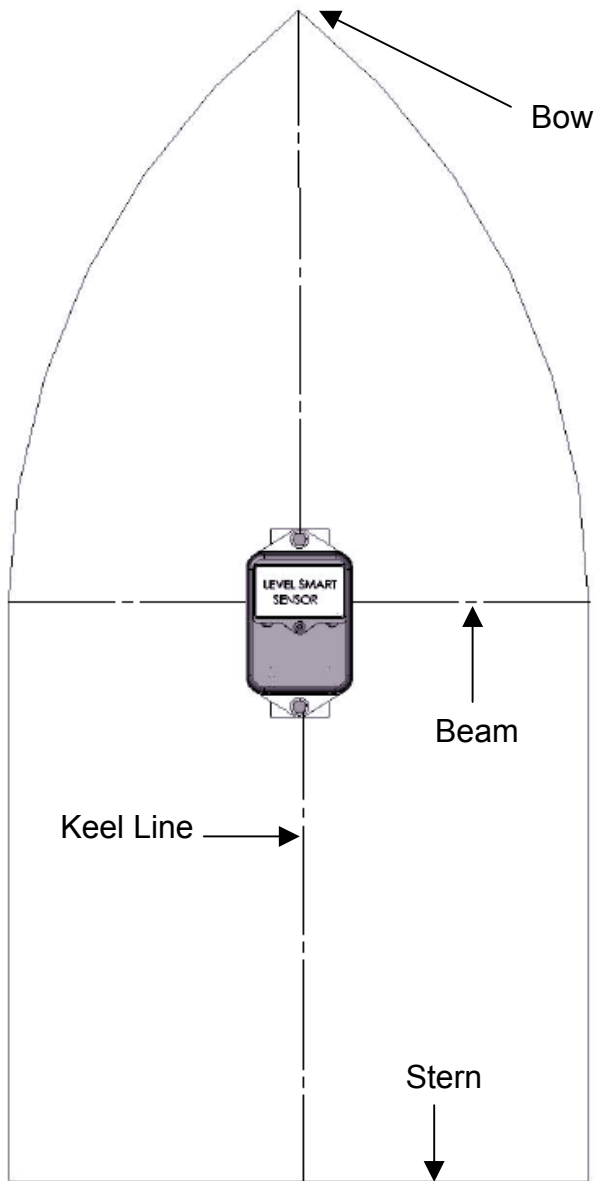

Figure 1
5. The correct mounting position of the Level Smart Sensor is critical. The top and the bottom of the Level Smart Sensor box must be parallel to the beam of the boat and the sides of the Level Smart Sensor box must be parallel to the keel line (see figure 1 on page 23).